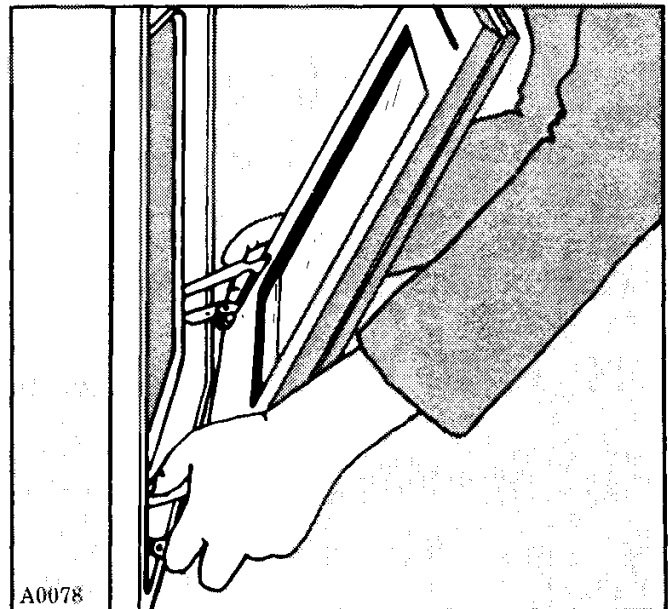

Fig. 13
4. At this stage the two hinges on either side of the door must be clasped together simultaneously. The door can then be removed by pulling out and downwards, maintaining the angle (Fig.13).